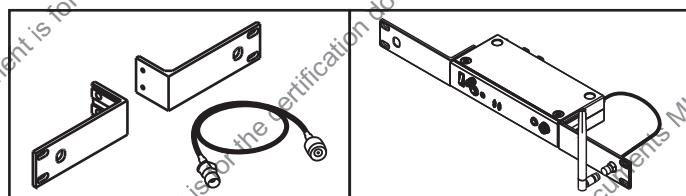

Fig. 3
(B) Install an optional FB-71 rear-to-front rackmount kit with cable. Attach supplied antenna to the front for improved optimal transmitting efficiency as Fig. 3: